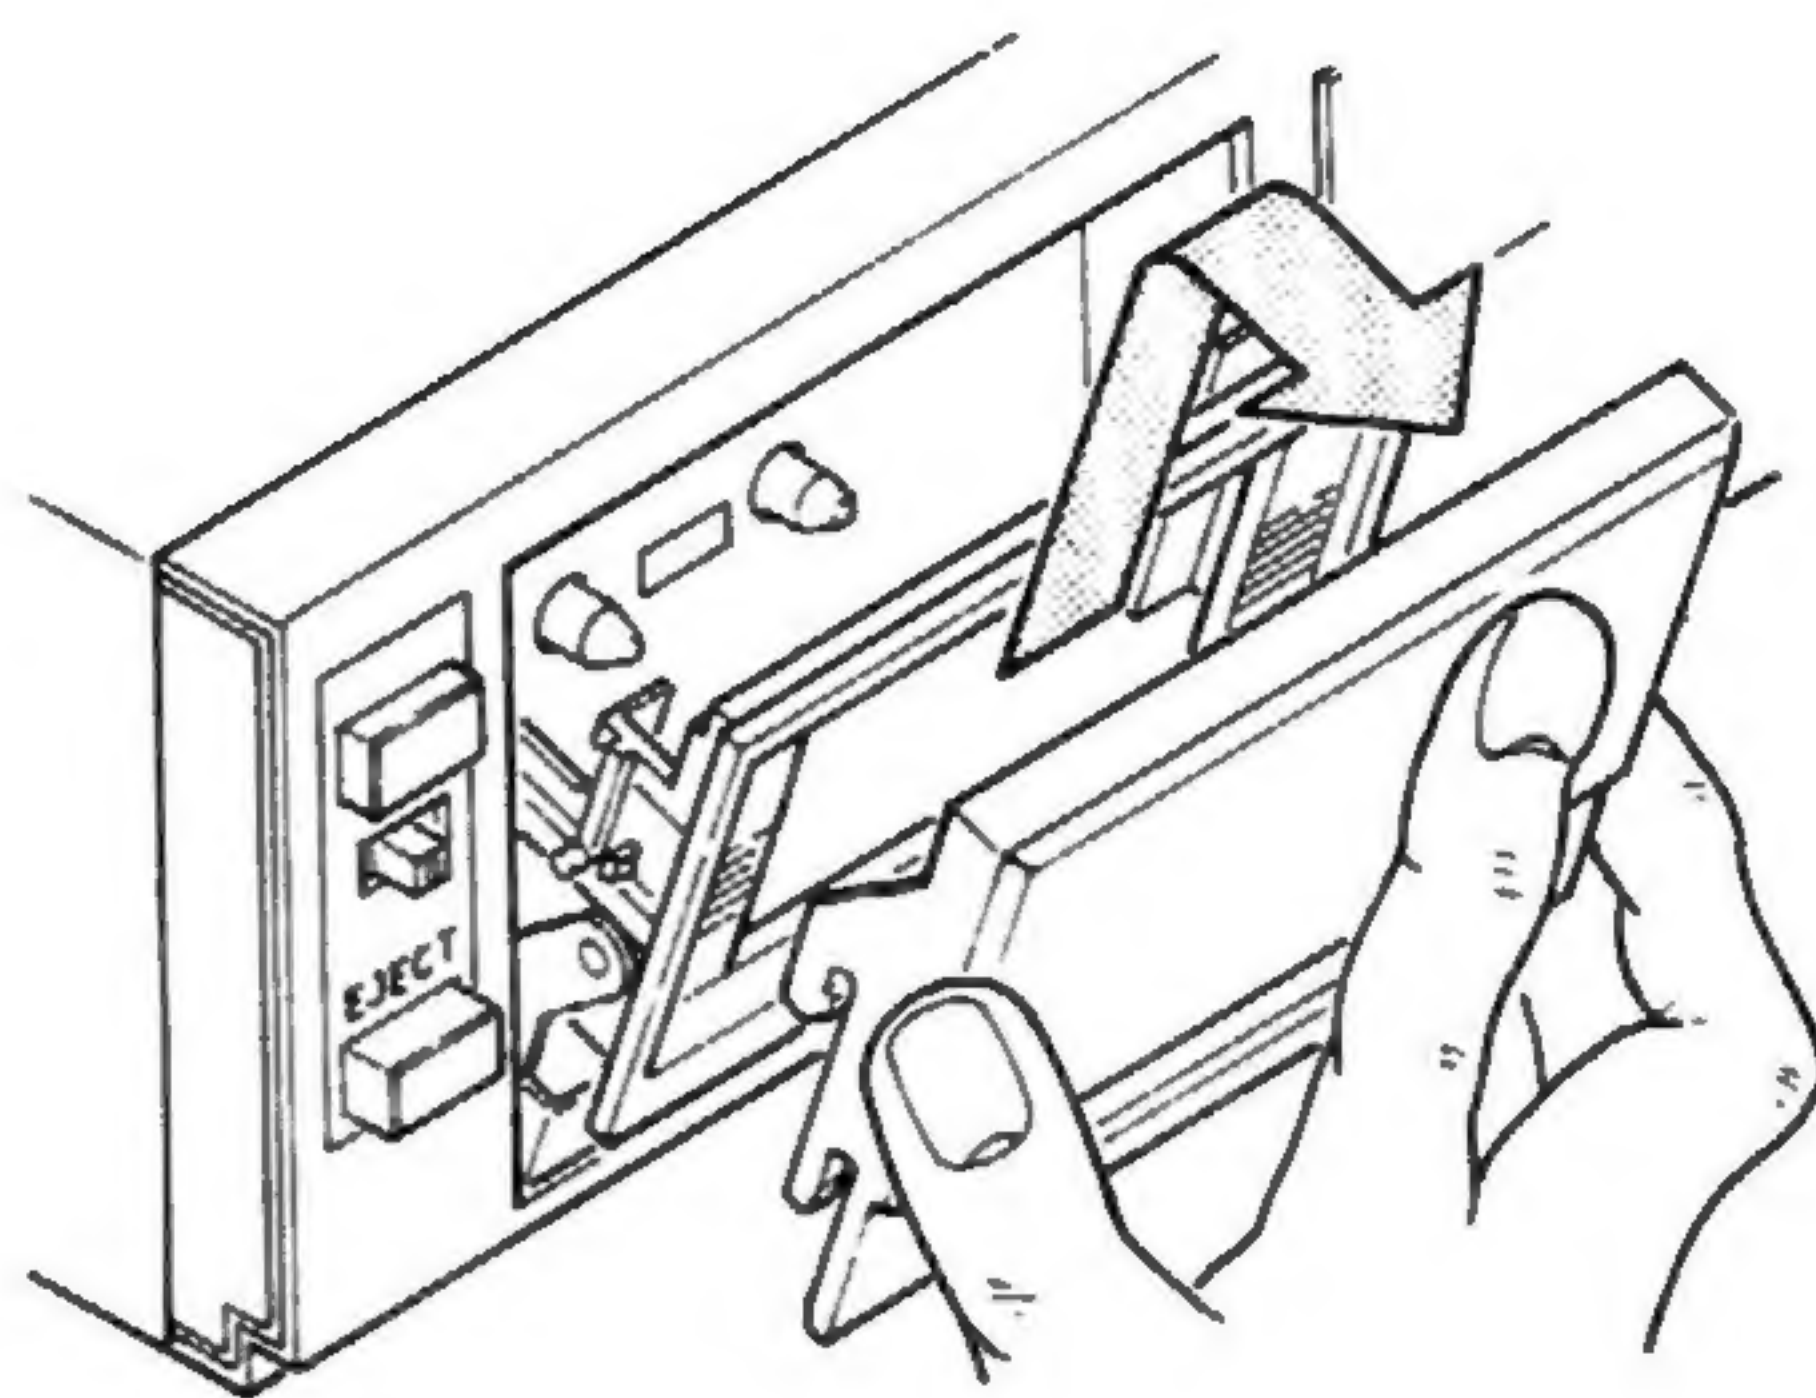

Fig. 26
2. Hold only the cover of the cassette compartment and pull it up. The compartment cover is removed from the front. (Fig. 26)